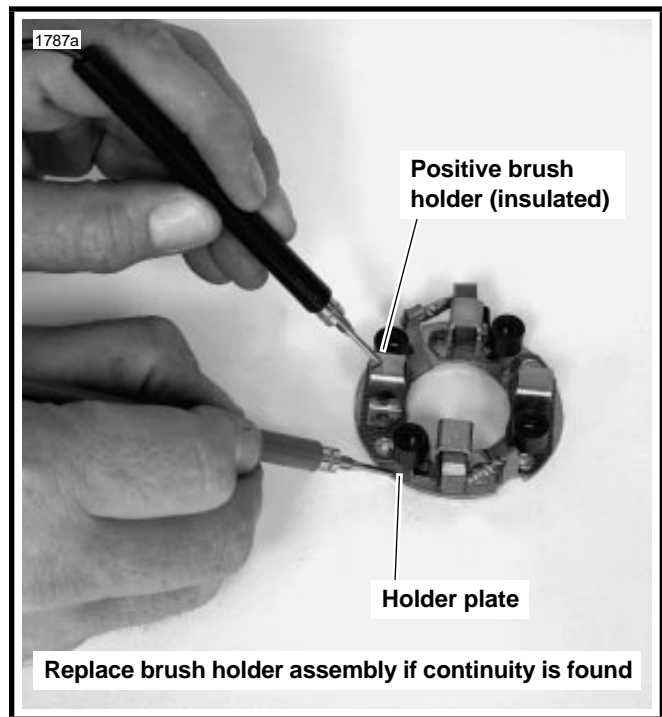

Figure 5-22. Brush Holder Insulation Test
14. See Figure 5-22. Test BRUSH HOLDER INSULATION with an ohmmeter or continuity tester. Touch one probe to holder plate. Touch the other probe to each of the positive (insulated) brush holders. There should be no continuity (infinite ohms). If there is continuity at either brush holder, replace the brush holder assembly.